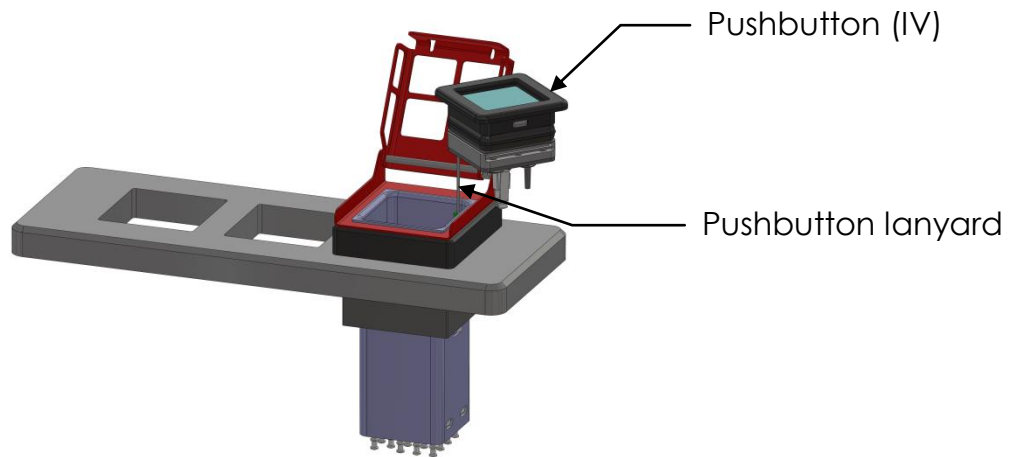
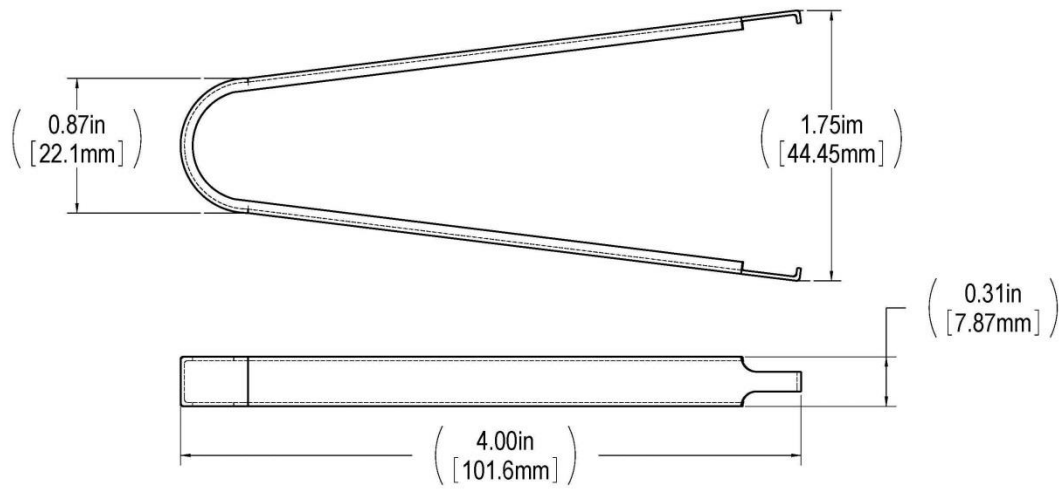

Figure 2: Lanyard
Figure 9: Pushbutton extraction tool
- 3.4. Remove pushbutton (IV) from switch. Caution: pushbutton is retained to switch assembly by utilizing a pushbutton lanyard. After pushbutton releases from switch, extend pushbutton until lanyard is fully extended (Figures 2, 3 and 4). Pushbutton guard must be held by the installer in the open condition when this procedure is performed.
- 3.6. Using a flat head screw driver with torque settings, turn screw clockwise so that mounting lugs of switch tighten against mounting sleeve. Tighten mounting lug screws to 10 ± 2 in-ounces (0.0703 ± 0.014 Nm). (Figures 2, 3 and 4)
- 4.3. Remove pushbutton (IV) from switch. Caution: pushbutton is retained to switch assembly by utilizing a pushbutton lanyard. After pushbutton releases from switch, extend pushbutton until lanyard is fully extended (Figures 2, 3 and 4). Pushbutton guard must be held by the installer in the open condition when this procedure is performed. For -003 configuration, use Staco pushbutton extraction tool P/N 15193 to remove pushbutton (Figure 9).
- 4.5. Using a flat head screw driver with torque settings, turn screw clockwise so that mounting lugs of switch tighten against mounting sleeve. Tighten mounting lug screws to 10 ± 2 in-ounces (0.0703 ± 0.014 Nm). (Figures 2, 3 and 4)